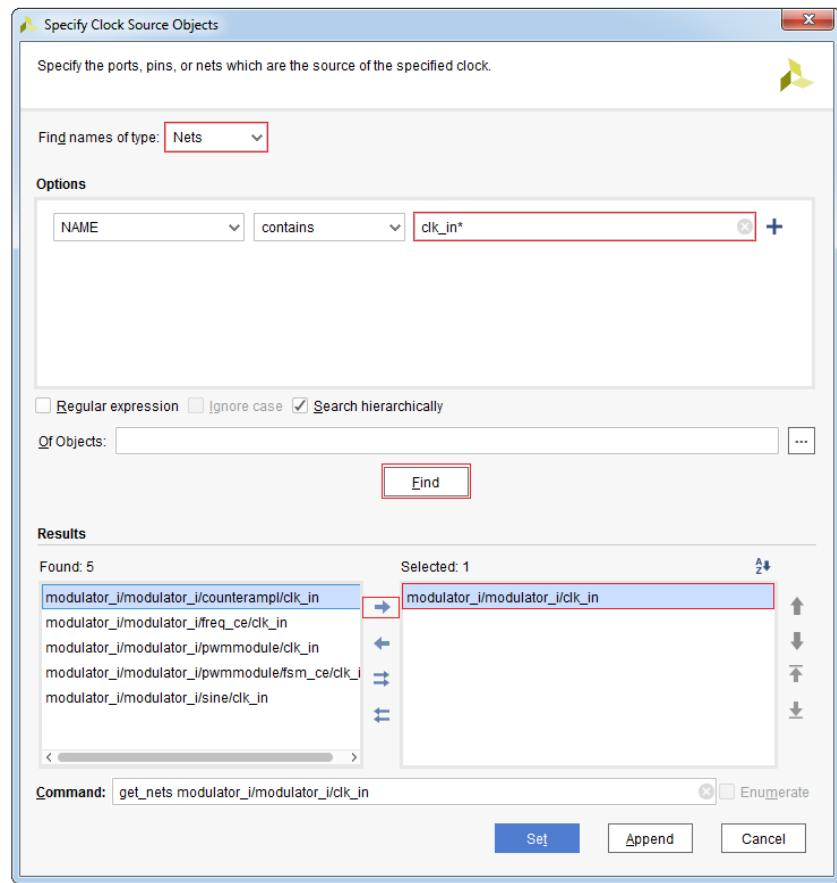

Figure 10.16: Specify Clock Source Objects dialog box
5. In the **Specify Clock Source Objects** dialog box (see Figure 10.16), do the following: